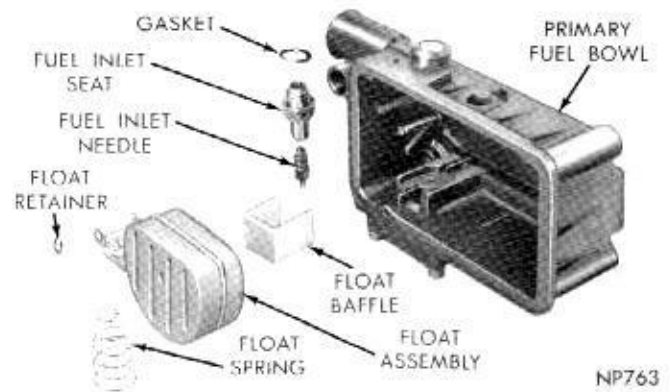

Fig. 11—Float, Needle, Seat and Baffle (Exploded View)
(3) Install new gasket on fuel inlet needle seat (Fig. 11) then install in fuel bowl. Tighten securely. Slide fuel inlet needle into seat.
(4) Install float baffle in position, then slide float hinge over pivot and secure with "E" clip. Install float spring.
(5) Install new gasket over fuel inlet fitting, then install fitting in primary fuel bowl. Tighten securely.
(1) Install new gasket on fuel inlet needle seat (Fig. 11), then install in fuel bowl. Tighten securely. Slide fuel inlet needle into seat.
(2) Install float baffle in position, then slide float hinge over pivot and secure with "E" clip. Install float spring.